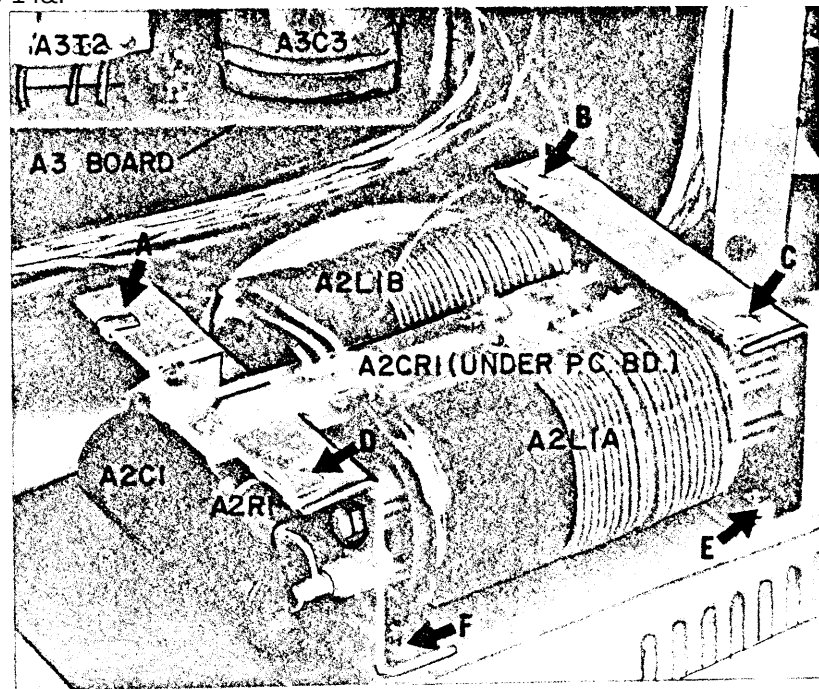

Figure 7-1. A2 RFI Assembly Component Location Diagram
- a. Component location diagrams (Figures 7-1 through 7-8, and 7-10), showing the physical location and reference designators of parts mounted on the printed circuit boards and chassis.